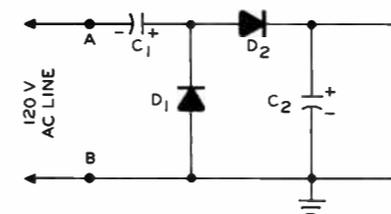

FIGURE 21
40. In the circuit of Figure 21 one side of the ac line forms part of the dc output circuit, and there is less chance of unwanted signals appearing in the output.